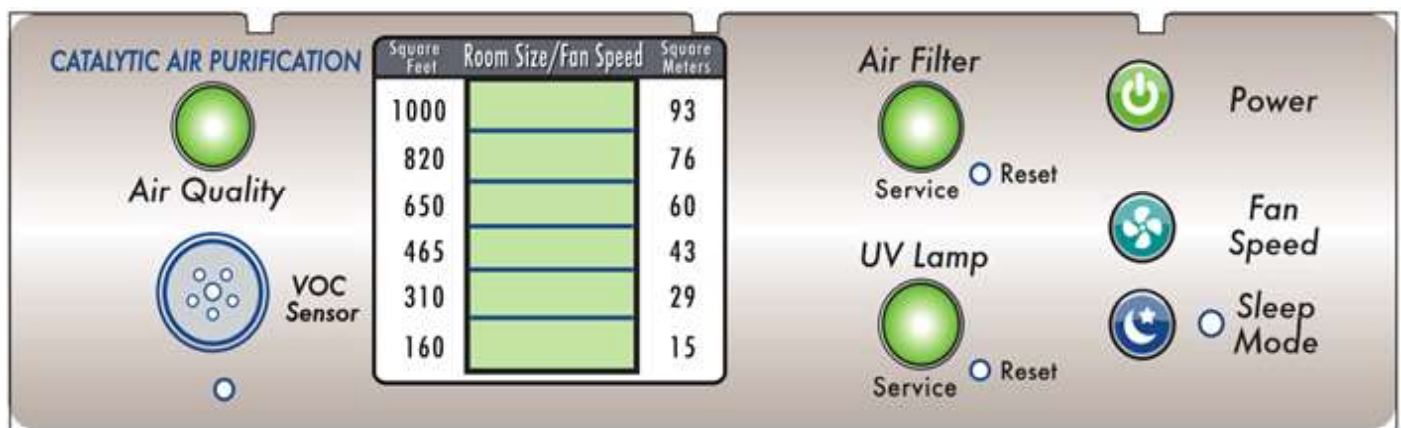

FIG 1
1. **Press-in Power (ON/OFF) button** to turn-on the Purifier. Lights on the control panel (figure 1) will turn-on. The UVC germicidal ultraviolet lamp will turn on and the fan motor will turn on.
Press the **"Fan Speed Button"** (FIG 1) until the **green LED bar light** underneath "Room size / Fan Speed" reaches the corresponding size of your room. Calculations in both "square feet" and "square meters" (length x width) measurements are conveniently listed at either side of the **green LED bar lights**. Correctly setting this indicator will keep the air volume at an optimum level.
4. Press the "Sleep Mode Button" (figure 1) at night if you desire to reduce fan noise.
Air quality is sensed in real time by the chemical-detection sensor (see figure 1) which continually evaluates air quality. Air quality is expressed by one of (3) colors on the air quality LED light.